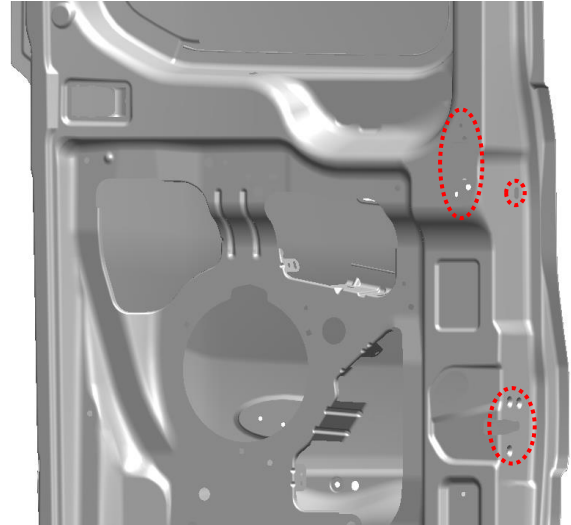

Figure 18: Passenger Door Interior Mounting Locations
15. Remove passenger door interior paneling as applicable to gain access to highlighted regions in Figure 18.